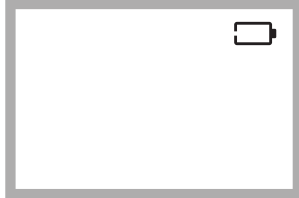

Figure 12
1. Replace battery when "  " appears in the upper right corner of LCD display. (See Figure 12)